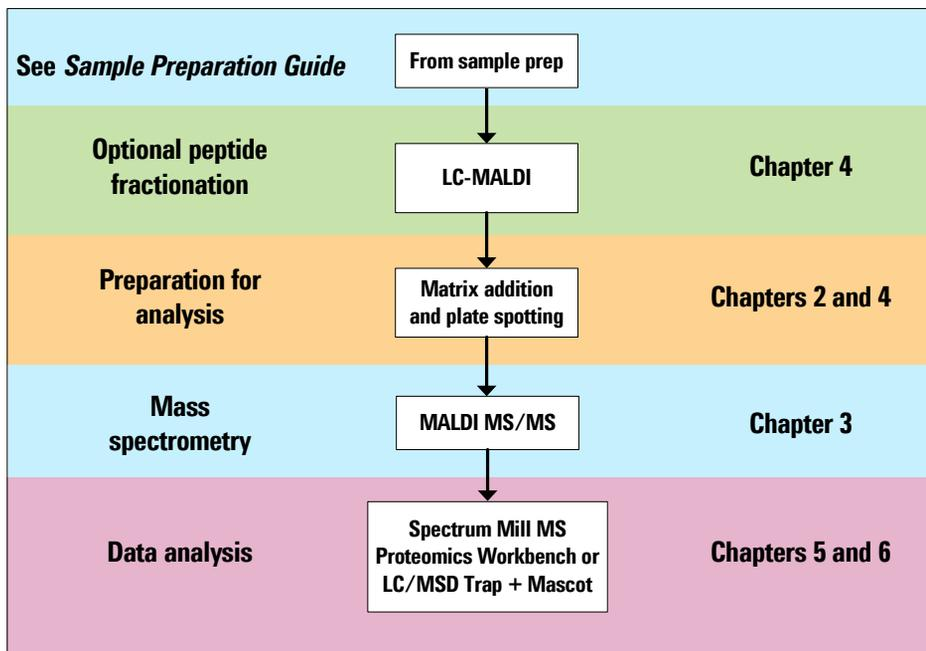

Figure 1 Workflow for MALDI MS steps of MALDI Protein Identification Solution
Figure 1 gives an overview of the matrix-assisted laser desorption/ionization (MALDI) mass spectrometric (MS) analysis portion of the Agilent MALDI Protein Identification Solution. The applicable chapters from this *MS Application Guide* are indicated adjacent to the workflow. You do the steps in this manual after you complete the sample preparation steps covered in the *Sample Preparation Guide*.